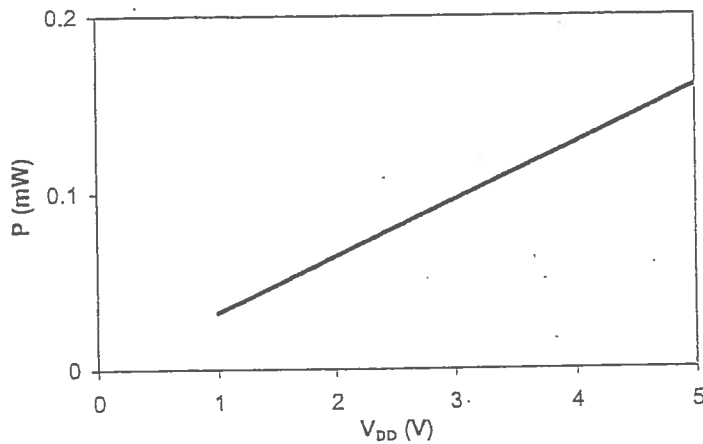

Figure 8.42.
b. The dissipation was determined as a function of the supply voltage in PSPICE using a DC sweep and a current probe. The calculated and PSPICE results coincide as shown in Figure 8.42.